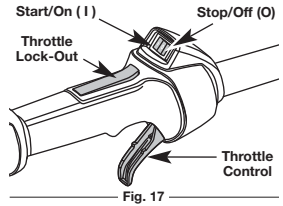

Fig. 17
NOTE: There is no need to turn the unit on. The On/Off Stop Control is in the ON (I) position at all times (Fig. 17).
- Press and hold On/Off Stop Control in the OFF (O) position until engine comes to a complete stop (Fig. 17).